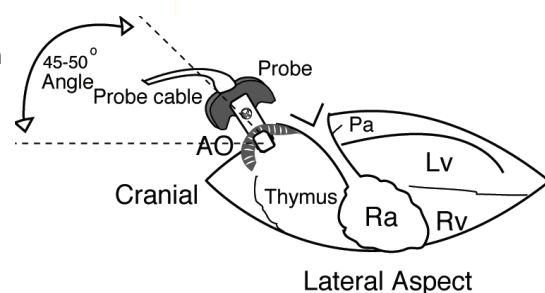

Fig. 2: Site and orientation of Probe on the ascending aorta.
12. Remove the retractor and position the cable to exit at approximately a 45 degree angle cranially such that the aorta is parallel with the J-reflector. The position of the heart and aorta within the chest are such that the Probe naturally assumes this position (Fig. 2).